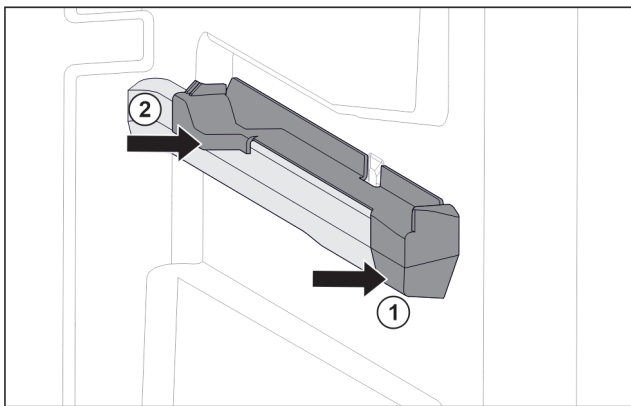

Fig. 196 Attachment on the right moulded rib
- ▶ Position attachment on moulded rib at the front. *Fig. 196 (1)*
- ▶ Press on attachment at the back. *Fig. 196 (2)*